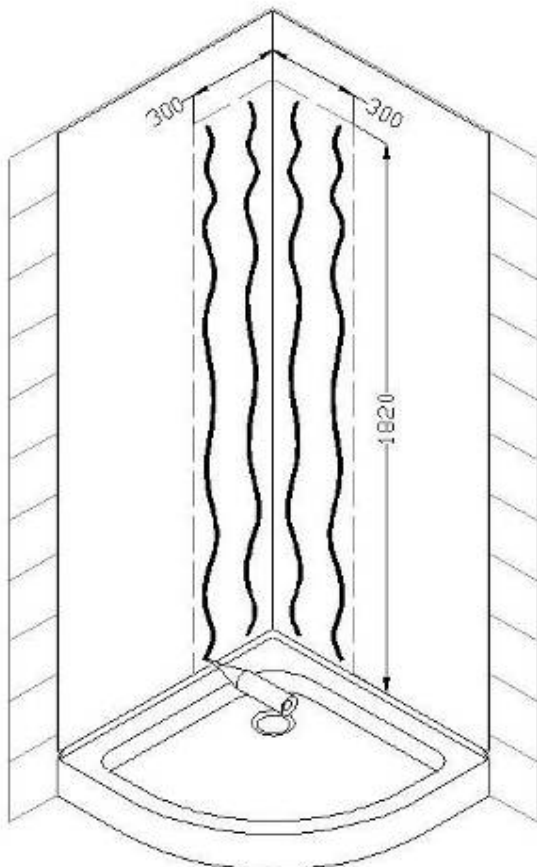

Fig 1
2. Surface must be dry, smooth and free of any dust, soap scum or any other contaminants. Run a bead of silicone or adhesive on the corner wall piece and along the wall area where the wall corner piece will rest. It should be applied on one panel at a time or it will start to set (Fig 1 & 2).